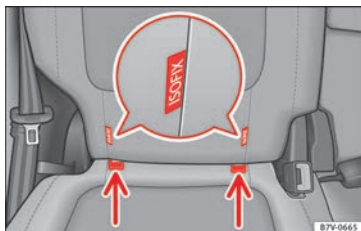

Fig. 37 Version 2: identification of the anchor points for the child seat on the vehicle seat
- Press the child seat onto the retaining rings » » **Fig. 37** in the direction of the arrow. The child seat must be safely engaged and click audibly into place.
- Place the child seat on the seat cushion and attach the retaining strap hooks to the retaining rings » » **Fig. 37**.